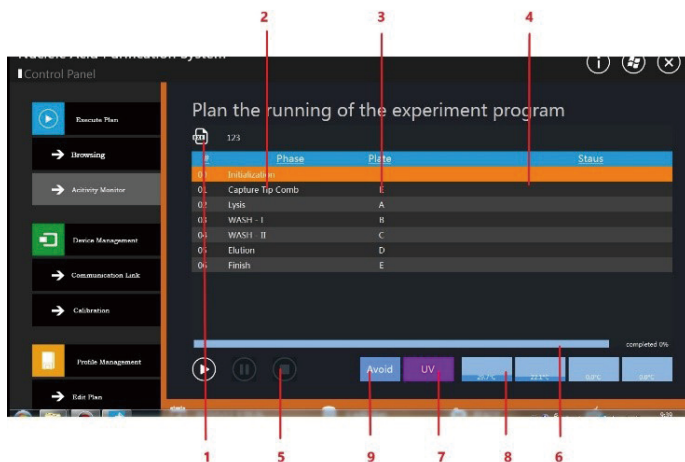

Figure 10. User Interface for Operation Monitoring of Execution Plan
As shown in Figure 10, after confirming the required execution plan by browsing the detailed information, the user can click the "Run" button, and the important operation area of the main interface will switch to the operation monitoring interface of the execution plan.
- ① in Figure 10 represents the name of the execution plan selected by the user to be run.
- ② in Figure 10 represents each execution phase of the execution plan, which is arranged from top to bottom on the basis of the order of execution.
- ③ in Figure 10 represents the working plate position of each execution phase.
- The area shown in ④ in Figure 10 displays the current running status and the results of each execution phase after planning to run. When an execution phase is finished, the system will display a small green icon in this area to indicate its success. When an error occurs in the operation of an execution stage, the system will display a small red icon and error information, and suspend the execution of the action sequence. The user can terminate the execution of the plan with errors. The icon of the execution status is shown in Table 2 below.
- ⑤ in Figure 10 represents the operation control button for executing the plan. There are three buttons from left to right, namely "Start Operation", "Pause Operation" and "Stop Operation". Start Operation starts or resumes the operation of the execution plan, Pause Operation indicates the instrument to temporarily stop the operation of the plan, and Stop Operation will terminate the execution of the plan. Before the user terminates the planned operation, the system will pop up a prompt dialog box to remind the user to confirm the termination operation. During the planned operation, the instrument will check the status of the safety door of the instrument at any time. If the safety door is accidentally opened, the instrument will suspend the planned operation. After the user closes the safety door correctly, click the Start Operation again to resume the planned operation.
- ⑥ in Figure 10 is the execution progress bar, which prompts the user with the completion progress of the current execution plan in the form of percentage.
- ⑦ in Figure 10 represents the UV disinfection control button. After clicking the button, the system pops up the UV disinfection control dialog box, which can be used by users to realize regular UV irradiation disinfection of the work table area before and after the experiment. When the execution plan is proceeded, the system prohibits users from UV disinfection. When UV disinfection is carried out, if the safety door is accidentally opened, UV disinfection is suspended to protect operators from radiation.
- ⑧ in Figure 10 represents the temperature indicator, which is used to display the current temperature value of the temperature control panel on the instrument console. Since TGuide S96 Nucleic Acid Extractor has two temperature control panels, the latter two temperature indicators are not used, and they always display 0℃.
- ⑨ in Figure 10 represents the liquid anti-drip tray retreat button, which is used to control the tray to move to the corresponding plate position and avoid blocking the position when placing consumables.